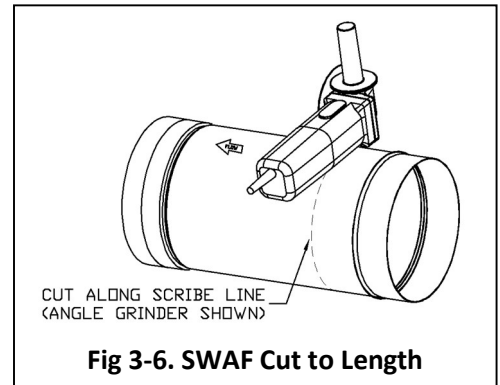

Fig 3-6. SWAF Cut to Length
4. Using this line as a guide, cut and remove the extra material from the Male End. Deburr all cut edges (See Fig 3-6).